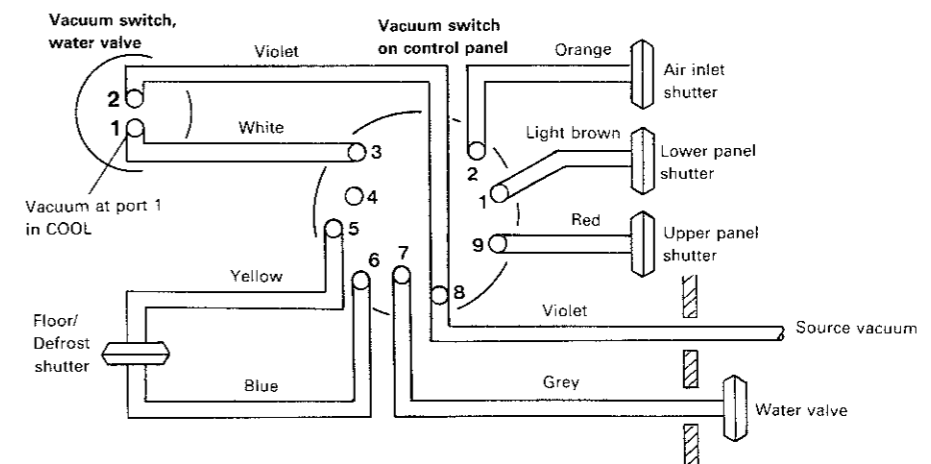

Fig. 2.14 Vacuum hose connections – models without climate control (Sec 23)
- 10 Refit by reversing the removal operations. Refer to Fig. 2.14 or 2.15 for guidance when connecting the vacuum motor hoses.